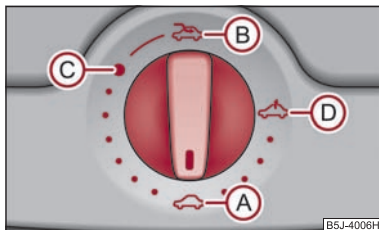

Fig. 34 Control dial for the power sliding/tilting roof
The sliding/tilting roof is operated by means of the control dial ⇒ fig. 34 and only functions when the ignition is switched on. The control dial has several positions.
- Turn the switch to position **C** ⇒ fig. 34.
- Turn the switch to position **(A)** ⇒ page 46, fig. 34.
The sliding/tilting roof is fitted with a force limiter. The sliding/tilting roof stops and moves back several centimetres when it cannot be closed because there is something in the way (e.g. ice). You can close the sliding/tilting roof completely without force limiter by pressing the switch to the **(A)** position ⇒ page 46, fig. 34 at the front for as long as it takes for the sliding/tilting roof to close completely ⇒ .
It is necessary after each emergency operation (using Allen key) to move the sliding/tilting roof into the basic position. Here you have to turn the control dial forward to the switch position **(A)** ⇒ page 46, fig. 34 and press for about 10 seconds. ■